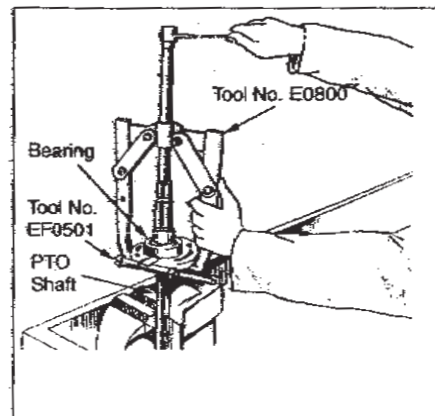

Figure 4
- Using Tool Nos. EF 800 and EF 501 pull the bearing, also the collar from the shaft. Figure 4.
- Press the ball bearing onto the shaft from the front using Tools Nos. EF 501 and EF 800-until it seats against the collar, Figure 4 and install a new locating snap ring.